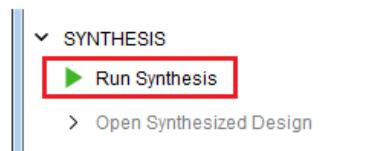

Figure 11.14: Run Synthesis command
16. In the Vivado **Flow Navigator**, click **Run Synthesis** command (**Synthesis** option) and wait for task to be completed, see Figure 11.14.